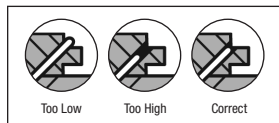

Figure 5
- Improper adapter plates and air pressure settings can cause severe damage to the hardwood flooring and reduce performance (Figure 5). Always use an in-line regulator to control air pressure to the machine. Set pressure at 70-75 PSI to begin with and adjust until proper fastener setting occurs.